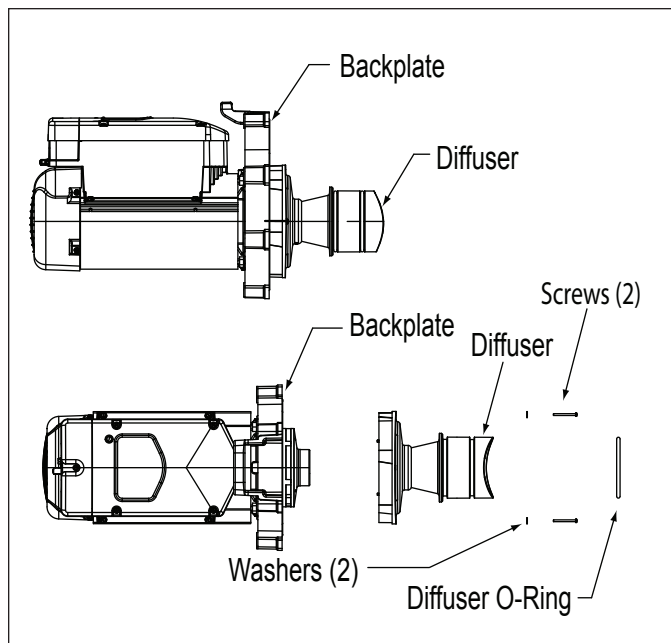

Figure 8. Remove the Diffuser
5. Using a No. 1 Phillips screwdriver, remove the two (2) screws holding the diffuser. (The diffuser is the cover over the impeller.) Then remove the diffuser. (See Figure 8.)